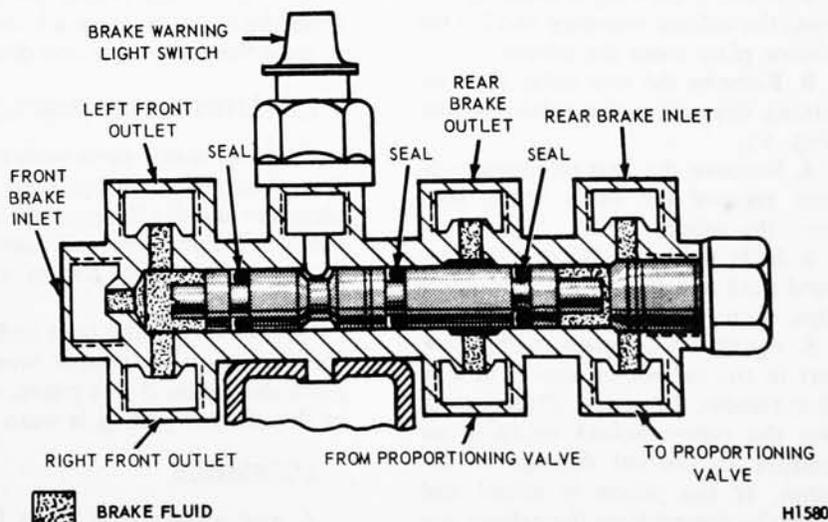

Fig. 7—Pressure Differential Valve
1. Disconnect the brake warning light wire from the pressure differential valve assembly switch (Figs. 7 and 8). To prevent damage to the brake warning switch wire connector, expand the plastic lugs to allow removal of the shell-wire connector from the switch body.